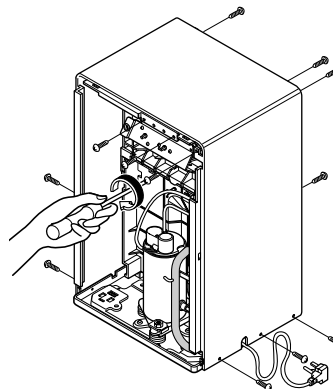

Figure 7
2. Remove 3 screws that fasten Control box. (See Figure 7)